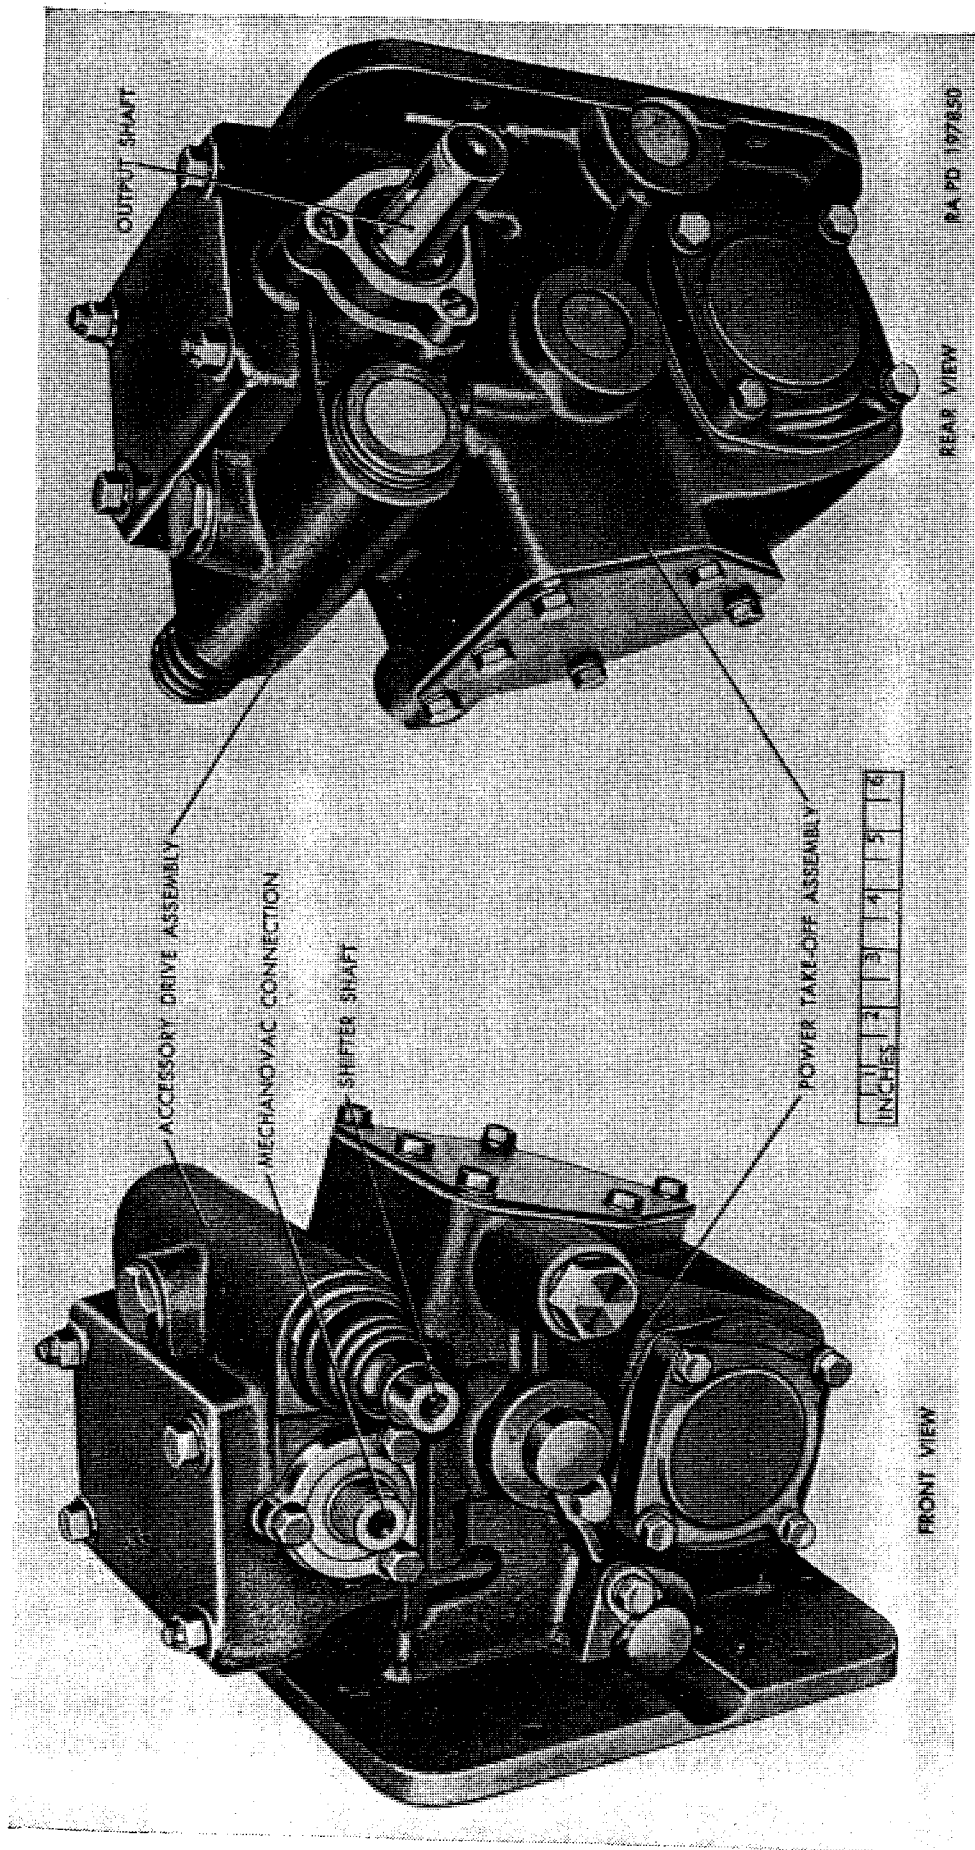

Figure 220. Front and rear views of tank body pump power-take-off and accessory drive assemblies.
- (3) *Power-take-off (tank body pump)*. Power-take-off used on vehicles equipped with tank bodies is illustrated in figure 220. This unit is equipped with an accessory drive, mounted at top of power-take-off, and provides means for driving tank body pump. Accessory drive output shaft is toward rear and controls are toward front.